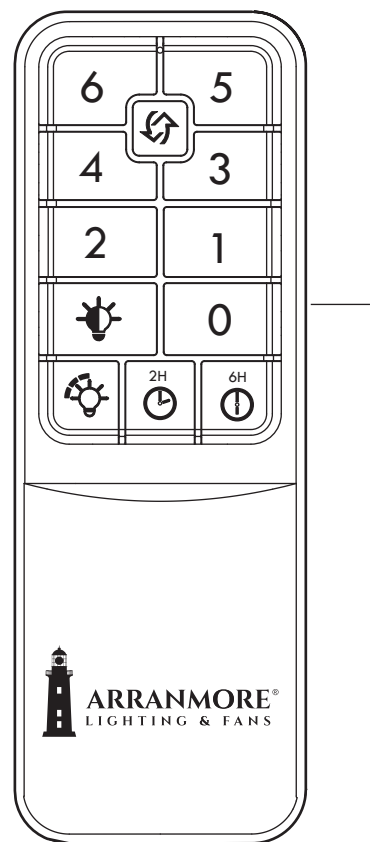

Figure 3
3. **0** button: Press and release the power button to turn the fan off. (Figure 3)